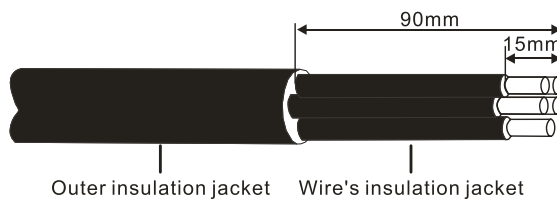

Figure3-21 Strip wire
- Step 2 Strip the outer insulation jacket of AC wire for about 90mm and the insulation jacket of wire for about 15mm, as show in Figure3-21.